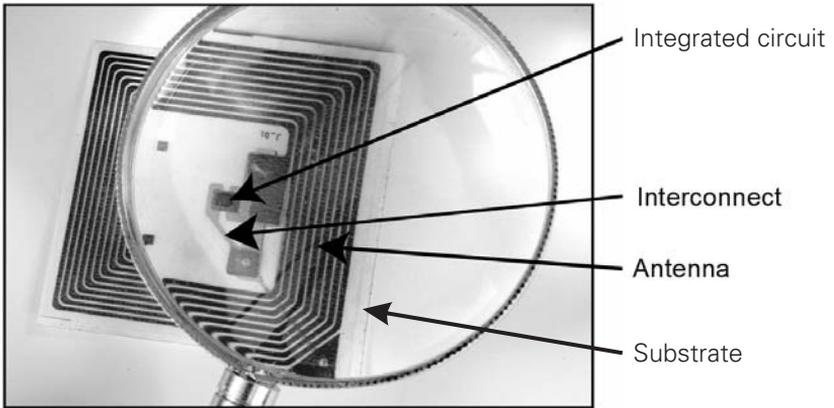

FIGURE 3.1 RFID tag components and interconnection
RFID tags are made of three different components: integrated circuit (IC), antenna, and substrate, as shown in Figure 3-1. A tag manufacturer typically does not make all three components in-house. The IC is typically designed and made by a semiconductor manufacturer, while an antenna is usually designed and made by a tag manufacturer. Tags are available in various sizes, designs, and form factors, and they can be customized for a particular application. Unless you need a very large number of tags, you should try to use stock tags because customized tags can be very expensive.